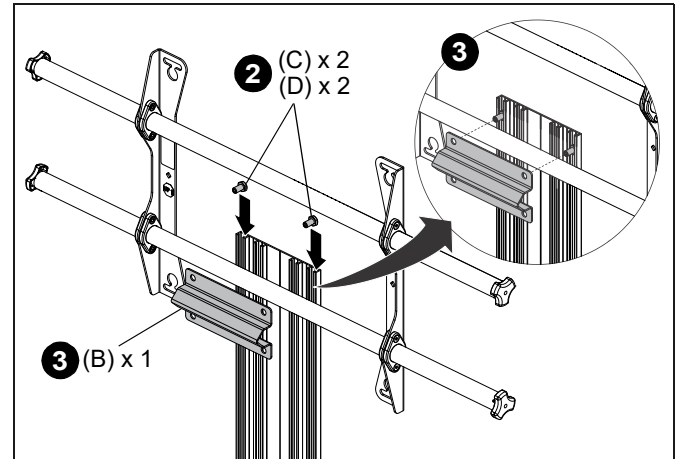

Figure 3
2. Slide two assembled M8 x 20mm screws (C) and M8 nuts (D) down into the outside channels of the upright extrusion (A) until they are positioned above the lower bar of the display mount. Tighten one of the screws (C) to hold the upright extrusion in place on the mount bar.
3. Place the tube clamp (B) over the lower bar of the display mount and the ends of the M8 x 20mm screws (C). (See Figure 3)